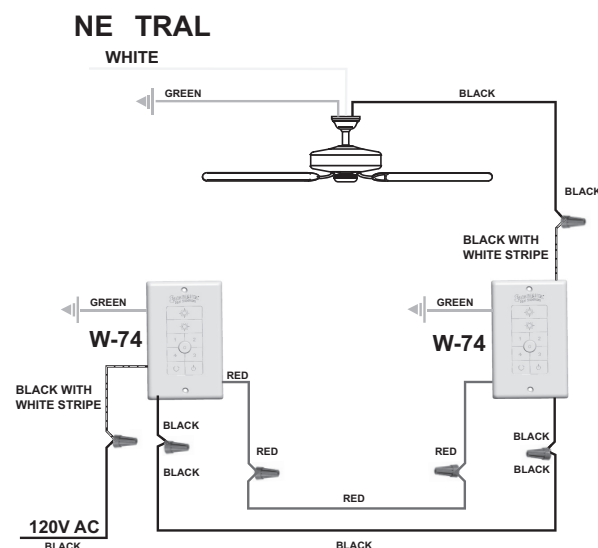

Figure 4
- Remove the wire from the common terminal of the three-way switch. Connect this wire to the remaining black/white striped wire on the W-74 control. Secure this splice with a wire nut. Figure 4